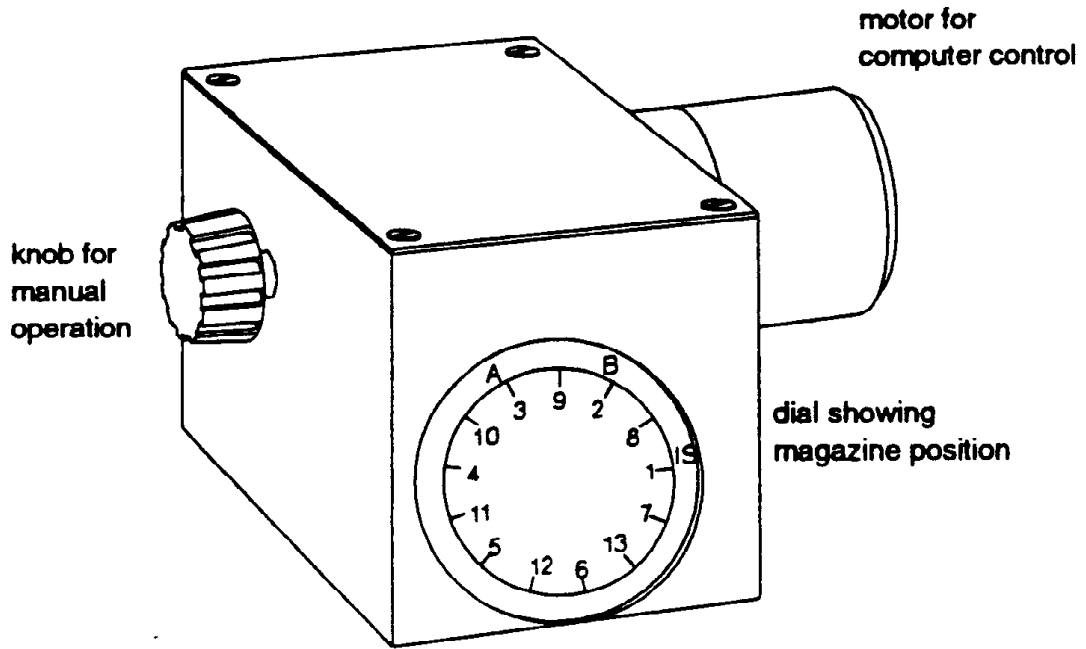

Figure 6
- c. While watching the pen movements, **SLOWLY** adjust the barrel focus (the knob you used to put the sample filament into position...figure 6) in the direction necessary to cause the pen to move to the left (increasing). **NOTE:** Do not crank the knob so much as to move the filament off the electrical connection (as indicated by the sudden disappearance of current on the filament control box).....this causes the filament to quickly begin to cool down and when you return the current